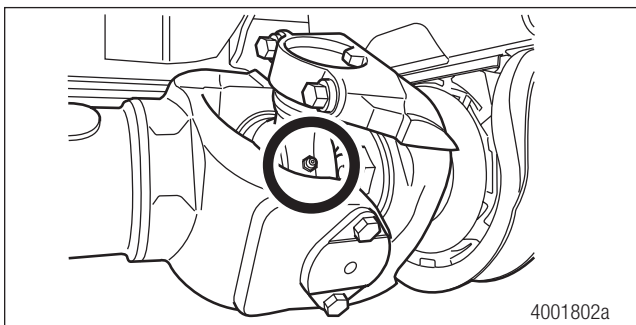

Figure 4.6
1. Check that all grease fittings are installed. Replace missing or damaged grease fittings with the correct type and size as specified in PB-9895 Meritor Aftermarket Driveline Components. Tighten them to 6 lb-ft (8 Nm). Figure 4.6.